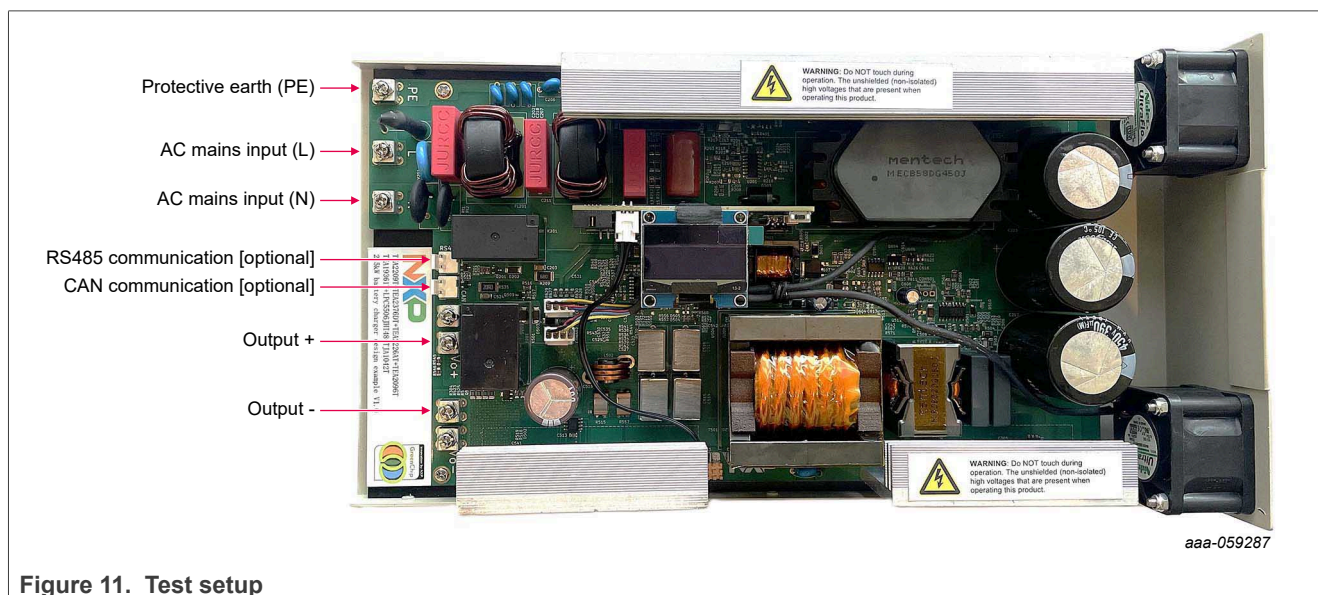

Figure 11. Test setup
Figure 11 shows test setup. When the AC mains input (90 V (AC) ~ 264 V (AC)) is applied, a flyback converter (TEA19361T) starts to operate and the flyback converter output voltage supplies the VCC of the MCU. When the MCU starts up, the LCD panel turns on. It is ready to acknowledge a battery voltage via the output connectors (between output + and output –). When a correct battery (between 30 V and 60 V) is connected to the output connectors, the output relay is enabled. It starts charging a battery (see Section 7.11).